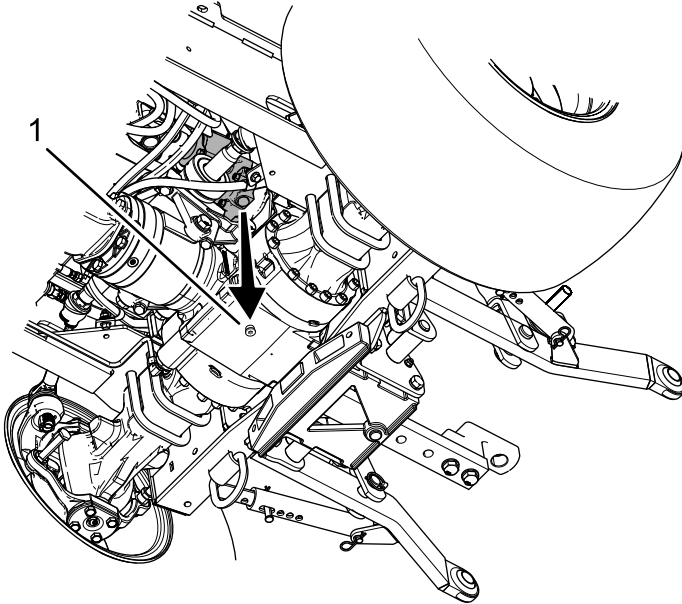

Figure 106
3. Remove the plug from the drain port (Figure 106).